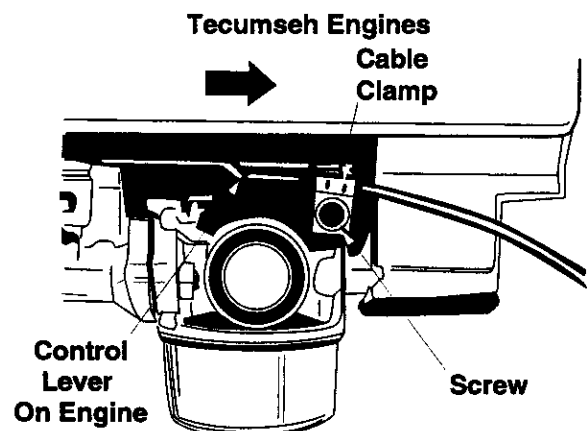

Figure 18
**NOTE:** If you have a Tecumseh engine, simply loosen the screw shown in Figure 18 so the cable will move freely beneath the clamp. It is not necessary to remove the screw and clamp completely.